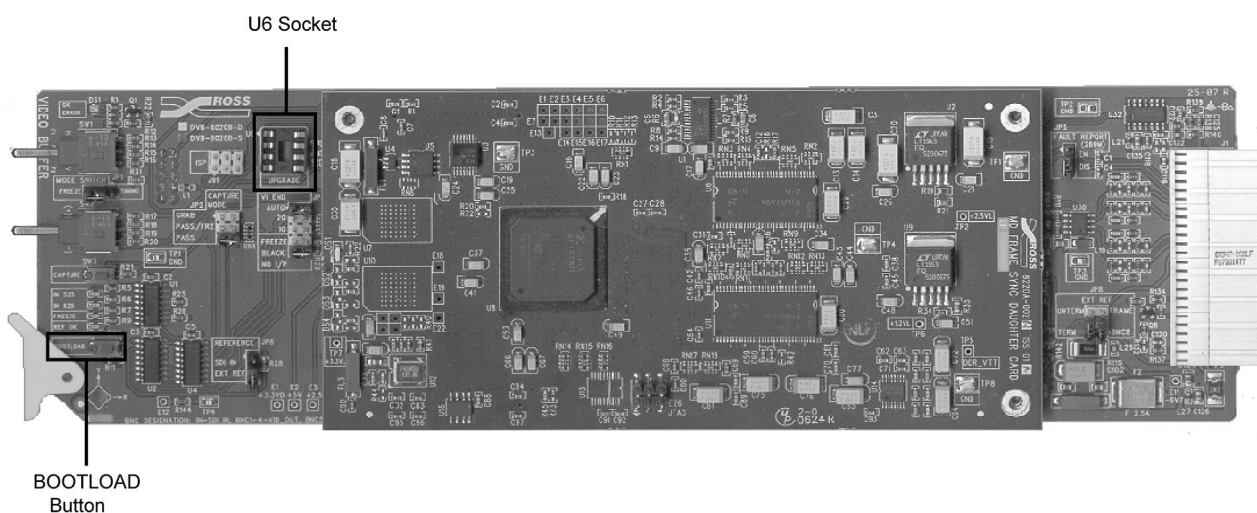

Figure 7. DVB-8020B-S Upgrade Socket and Label Locations
1. With the card out of the frame, refer to **Figure 7**, to locate the **U6** socket.